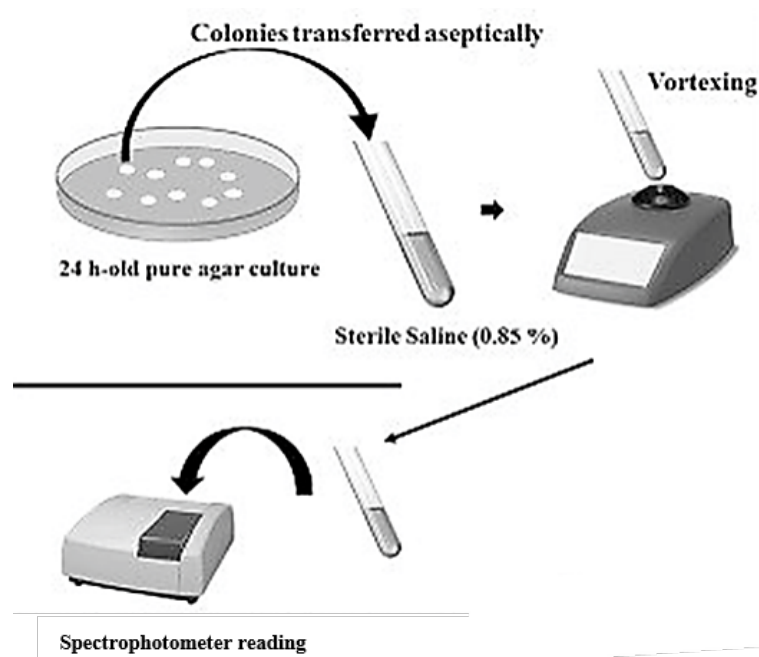

Figure 1: Preparation and verification of a 0.5 McFarland Standard.
- 2) Prepare 1.5×10^7 CFU/mL inoculum solution and verify using a 0.5 McFarland Standard (Figure 1) by testing with a spectrophotometer at a wavelength of 625 nm. Acceptable spectrophotometer results are in the range of 0.05-0.07.